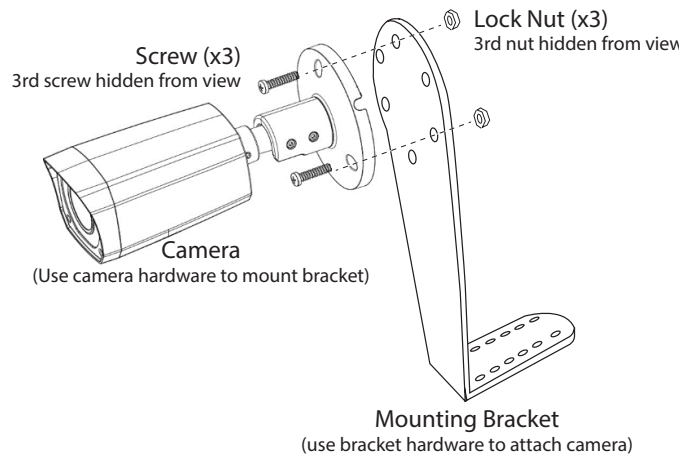

Fig. 2.1
4. Use the hardware package that came with the mounting bracket to mount the camera to the mounting bracket, see Fig 2.1.